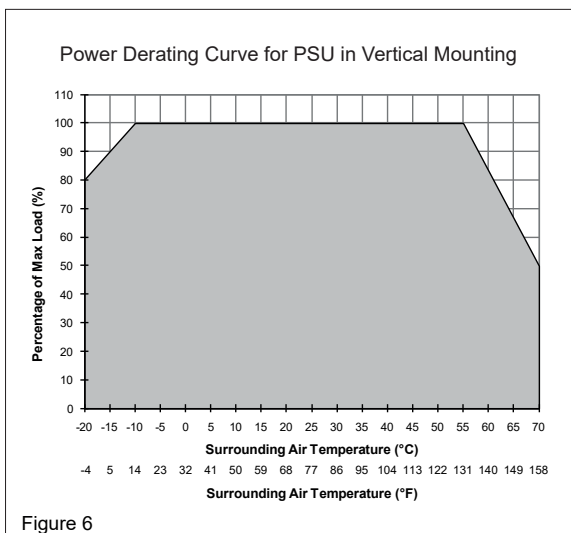

Figure 6
Operating temperature (surrounding air temperature)	-20°C to +70°C [-4°F to +158°F] (Refer to Fig. 6)
5.4. Thermal behavior (Fig. 6)
Derating	Refer to Fig. 6 -10°C to -20°C (2%/°C), > 55°C (3.33%/°C) in vertical orientation